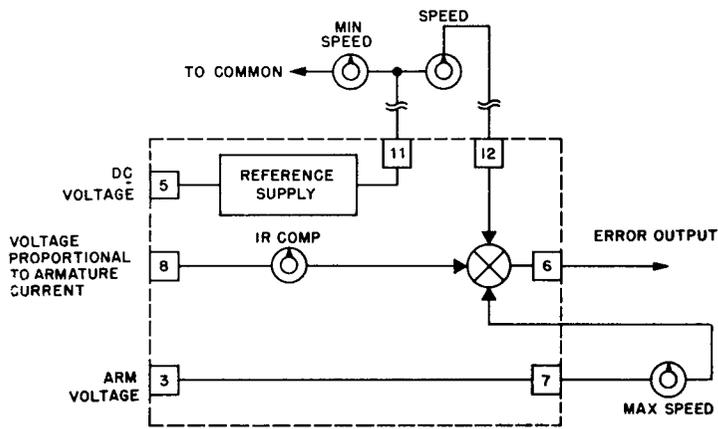

FIGURE 14 ARMATURE FEEDBACK MODULE
**3.3.1 Armature Feedback Module** - This module is used for 2% regulation of drive speed. Feedback current is proportional to armature voltage and is fed to the module from the motor armature circuit. The module consists of three circuits: reference, feedback and IR compensation circuits. Error current results from a comparison of three currents in the error sensing node: (1) reference current determined by SPEED and MIN SPEED control settings, (2) feedback current proportional to armature voltage, (3) IR compensation current proportional to motor losses (figure 14).